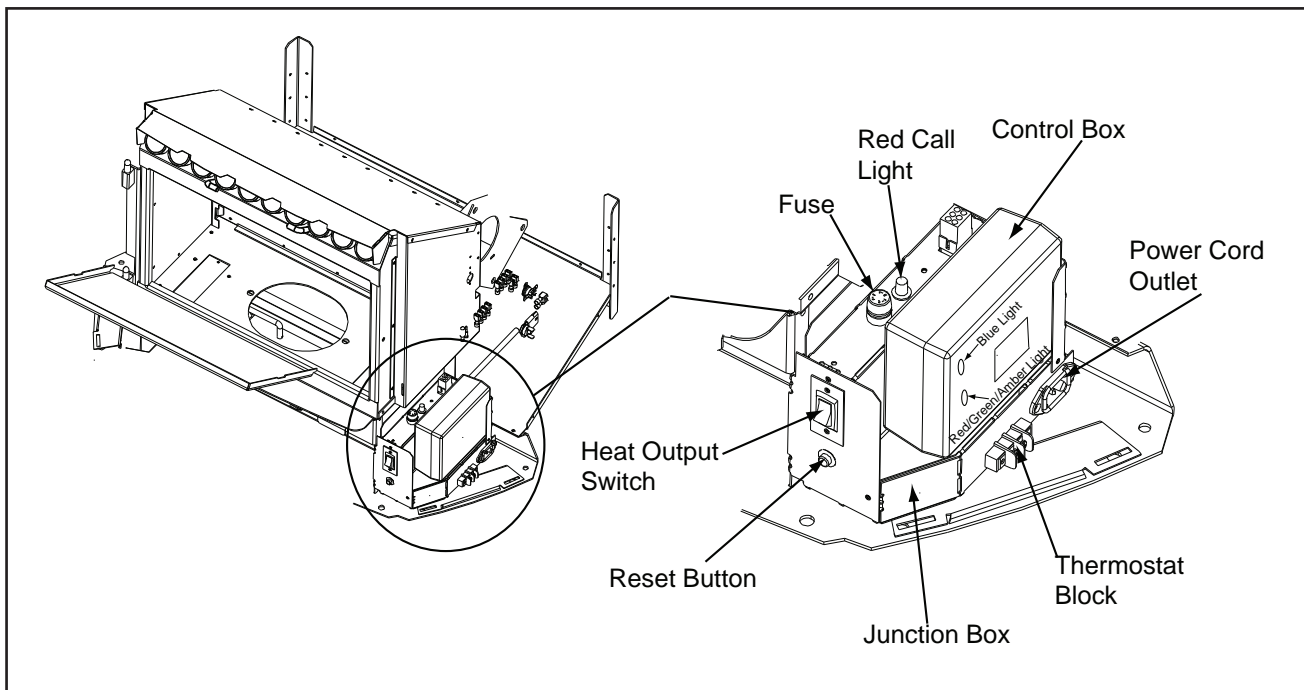

Figure 23.1
3. There is a 4 screw terminal block located on the junction box to the left of the power cord inlet. The center 2 screws are for the thermostat wires. The outer 2 are the mounting screws for the terminal block. **Figure 23.1.**